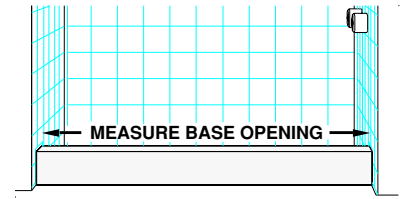

fig.1
2. Measure the opening width at curb level (see fig.1), then trim Sill (A) to 1/16" less than measurement obtained.
3. Turn Sill (A) over and apply a bead of caulking the full length of its underside. With high lip to the exterior, position Sill at center of shower curb.
4. Position Wall Jambs (B) atop ends of Sill (A) and up against shower walls. Use a level to plumb the Wall Jambs, then make a pencil mark on the shower walls thru each of the six(6) installation holes (three per jamb). Remove Wall Jambs and lightly center punch installation hole locations.